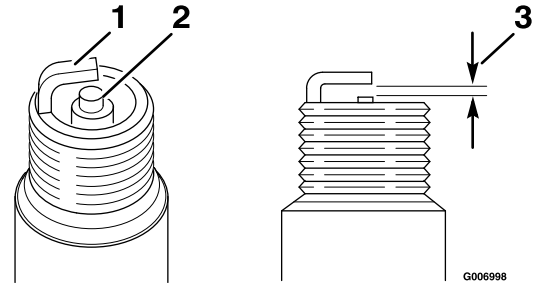

Figure 27
1. Look at the center of the spark plug (Figure 27). If you see light brown or gray on the insulator, the engine is operating properly. A black coating on the insulator usually means the air cleaner is dirty.
2. Check the gap between the center and side electrodes (Figure 27). Bend the side electrode if the gap is not correct.